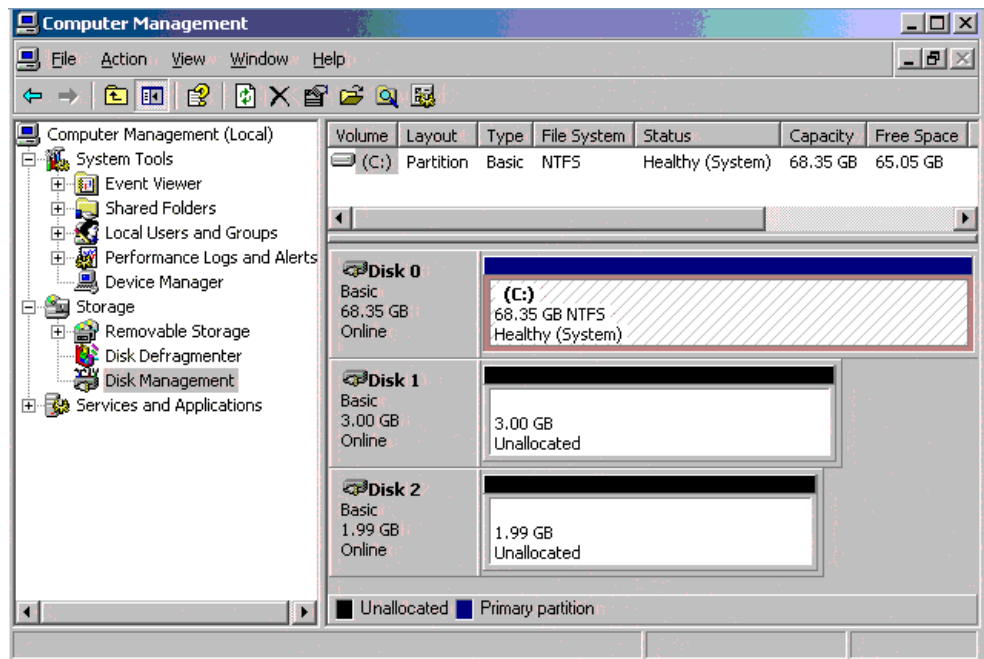

Figure 4-65 Remote Drives in Disk Management
19. You should now see your remote drives in Disk Management, as shown in Figure 4-65.